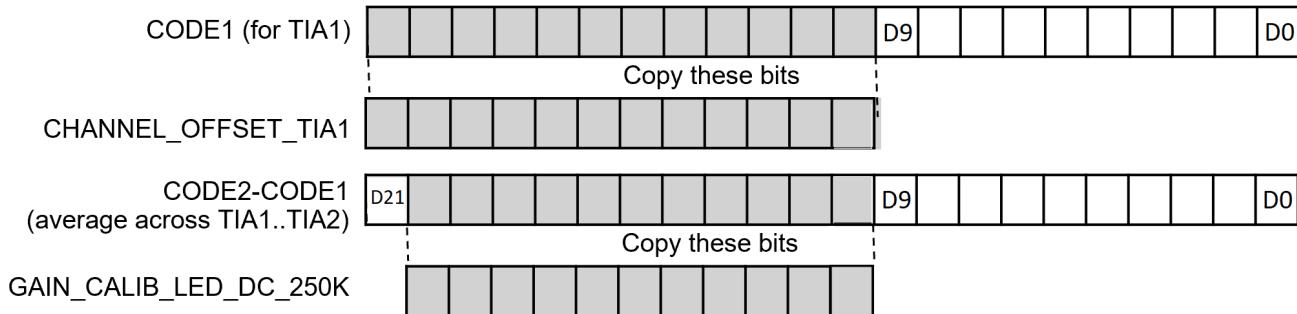

Figure 7-35. Derivation of GAIN_CALIB_LED_DC_250K and CHANNEL_OFFSET* Words
(1) Set POL_OFFSETDAC_LED to 0
(2) 2 sets of codes, one corresponding to each TIA
4. Derive GAIN_CALIB_LED_DC_250K and channel-specific CHANNEL_OFFSET_TIA* words as shown in Figure 7-35